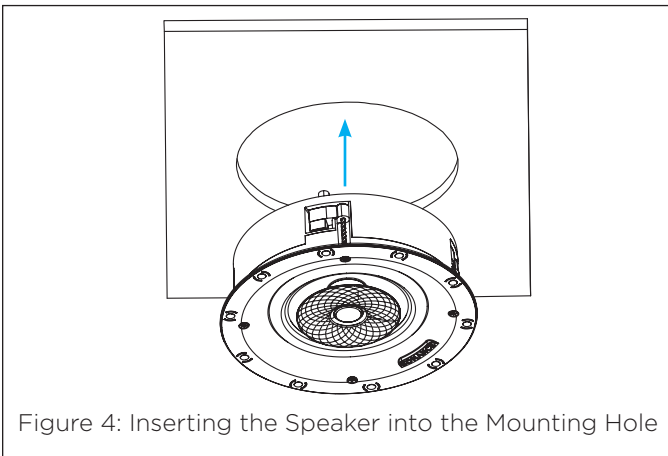
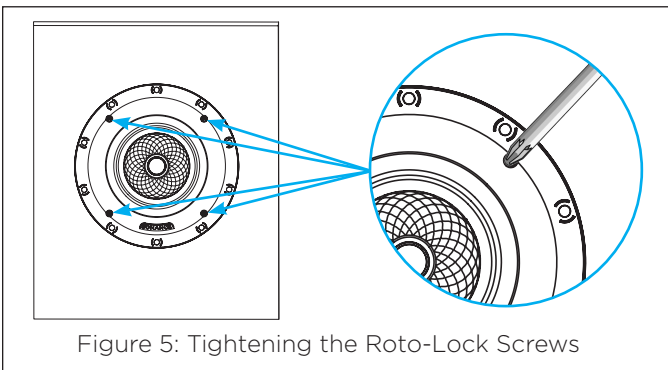

Figure 4: Inserting the Speaker into the Mounting Hole
Figure 5: Tightening the Roto-Lock Screws
- Insert the speaker into the mounting hole (see Figure 4) and tighten the four screws on the front of the speaker baffle (see Figure 5).